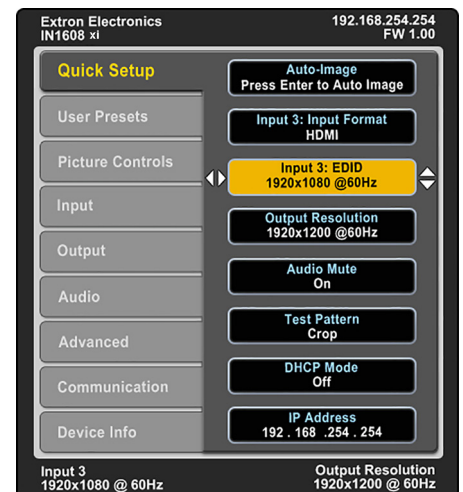

**Figure 2. Front Panel Features, IN1608 xi IPCP SA**
- For control through USB, connect a host device to the front panel USB mini-B port (see figure 2, **A** on page 4).